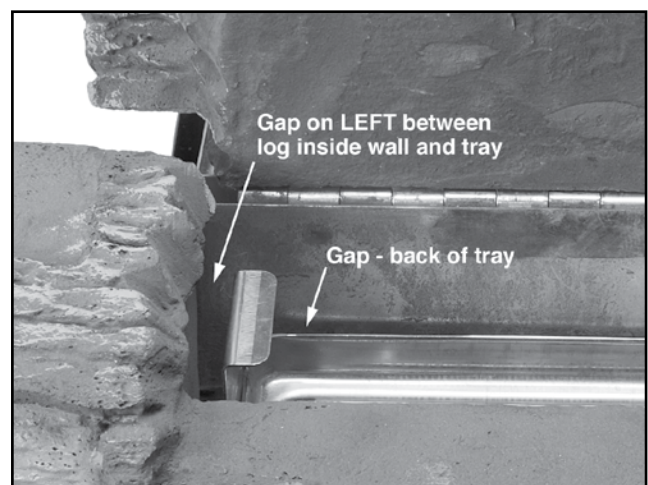
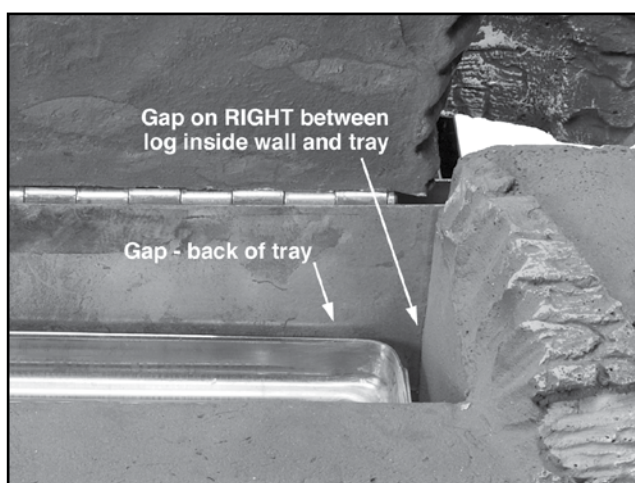
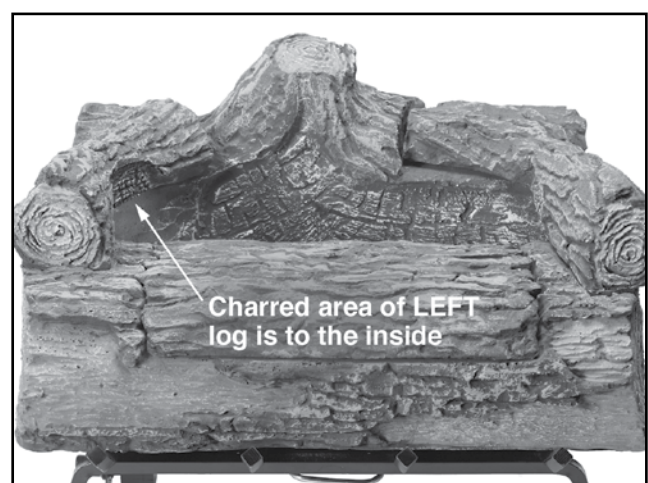
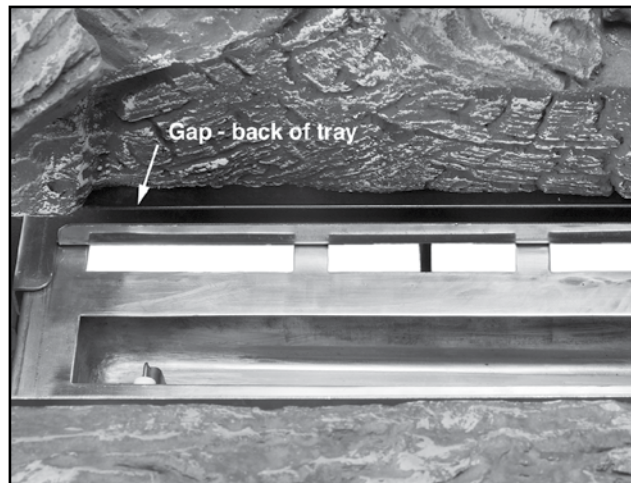

Figure 6
Figure 7
Figure 8
Figure 9
6. Place the back log on the shelf at the rear of the appliance (see Figure 4). Make sure it is centered left to right and that it sits so that the front part of the log is behind the front edge of the metal part it sits on. Next set the front log in place (see Figure 5). The cavity of the log fits over the fuel canister tray. The metal plate faces the rear of the appliance, and the log rests on the grate. Check to see that the log is centered by opening the fuel canister door and looking into the fuel canister cavity. The canister tray should be centered in the opening with the gap between the canister tray and the log wall on the left (Figure 6) is equal to the gap on the right (Figure 7). Also, push the log as far back as possible. Then place the left and right small logs on top of the front and rear logs (see Figure 8). Ensure that when the door on the front log is opened and you look down the front edge, that the canister tray is touching the inside wall of the front log and the back edge of the canister tray has a gap between it and the inside wall of the front log (see Figure 9). Make sure that the screws protruding from the metal plate are not resting on the back edge of the tray.